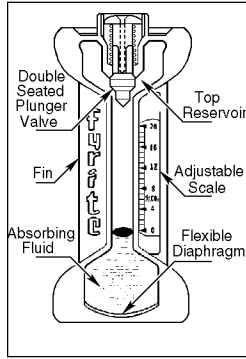
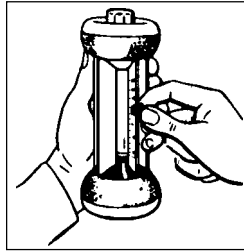
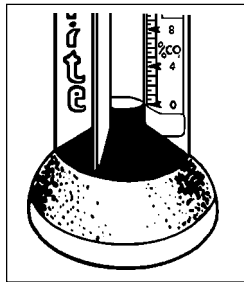

Figure 5
Figure 5a
Figure 5b
5. Holding FYRITE upright (Fig. 5), loosen locknut at rear of scale. Slide scale (Fig. 5a) until top of fluid column lines up with zero line on scale (Fig. 5b). Tighten scale locknut.